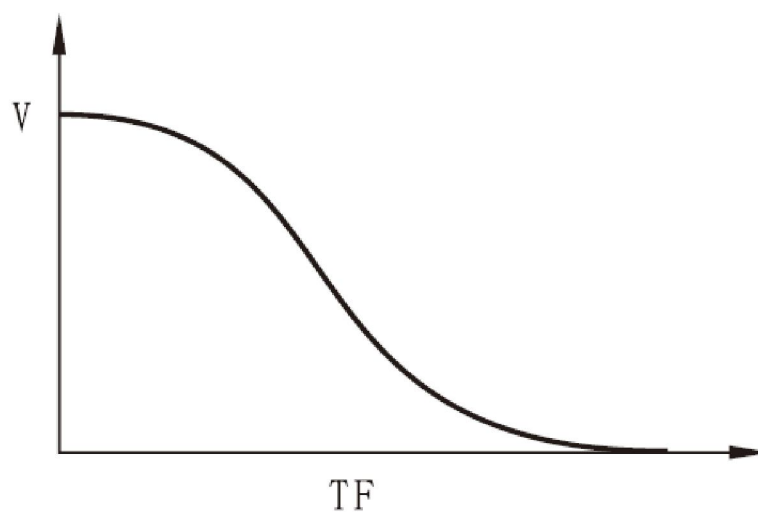

Figure 12-6-1
- a) The soft starter will be under soft stop mode when code F2 is not set to 0. Figure 12-6-1 shows the output current wave of the soft stop mode. T is the soft stop time set by the code F2. Under this stop mode, power supply of the motor will be switched to thyristor output of the soft starter through the inbuilt bypass contactor, and the output voltage of the soft starter will gradually drop from the full voltage to enable the rotation speed of the motor reduce smoothly to avoid mechanical shock until the motor stops running. The output cut-off voltage during soft start shall be equal to the starting voltage during start.